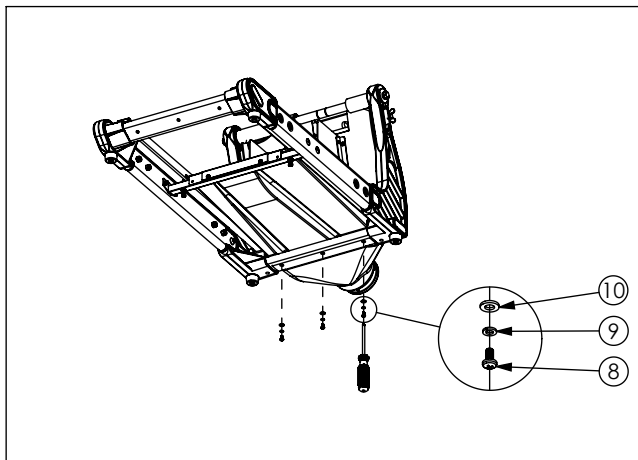

Figure 3: Underside view of the saw
3. Fasten the bottom of the dry kit with the provided hardware as shown in Figure 3.